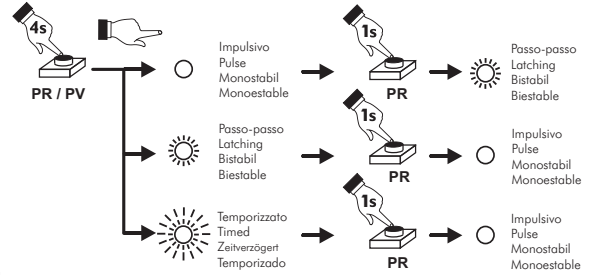

Fig. 4
The receivers are factory set to Pulse mode. To change the mode follow these steps (Fig. 4) :
- The relay mode will change according to the diagram of Fig. 4
4C - Relay RR (RV) configuration - Fig. 4